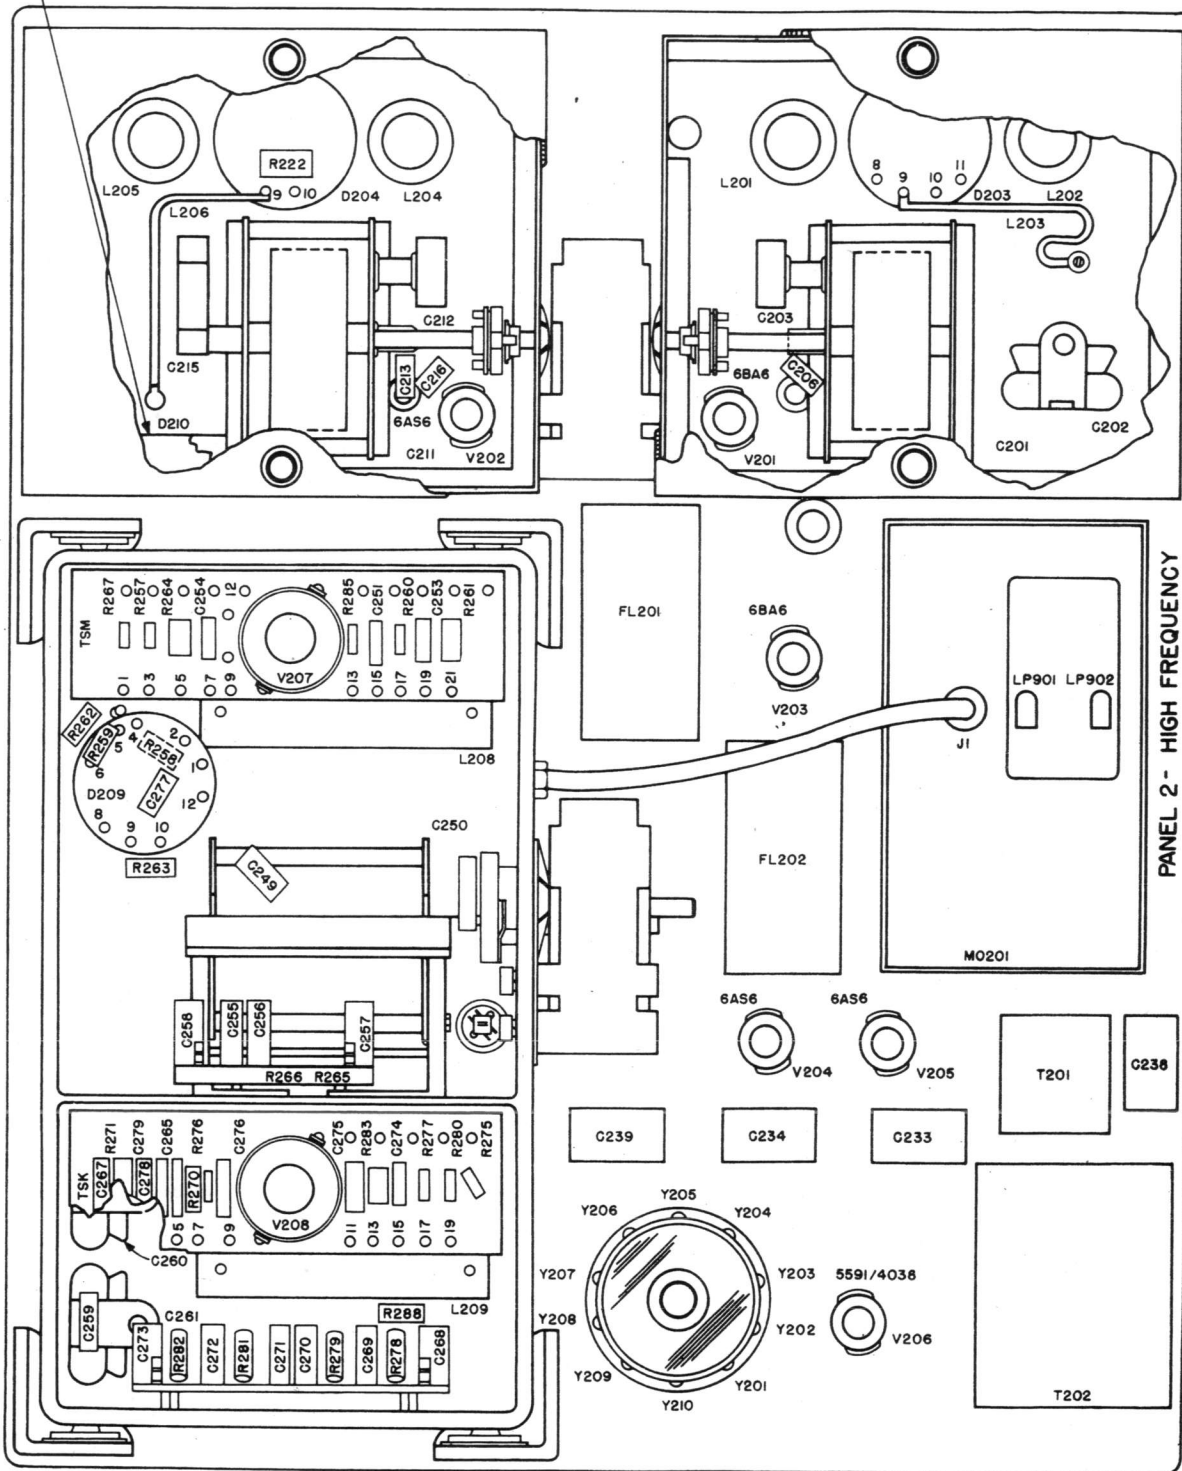

Figure 21. Hf amplifier, panel 2, rear view, component location.
c. First Beat Oscillator Capacitor Mounting. In some receivers, C250 is mounted on the side of the oscillator case. To convert to the present method of mounting (fig. 21), two support brackets are required. The brackets required are B 505911 and B 505912 and have been furnished by the manufacturer. Also required, are removal of the three pillars to the side of the case, and careful mechanical alignment to insure that there is no backlash when turning 1ST BEAT OSCILLATOR TUNING dial. This operation is described in BTL Trans. Development Letter 1475.
terminal 6 of D205 and ground. It is wired as shown in figures 87 and 90. It prevents oscillator frequency shift when PANEL 2 VT CURRENTS switch is operated. Resistor R288 is a 1,000-ohm, ½-watt resistor, mounted on terminal strip TSJ in the second beat oscillator (figs. 21, 36, 87, and 95).